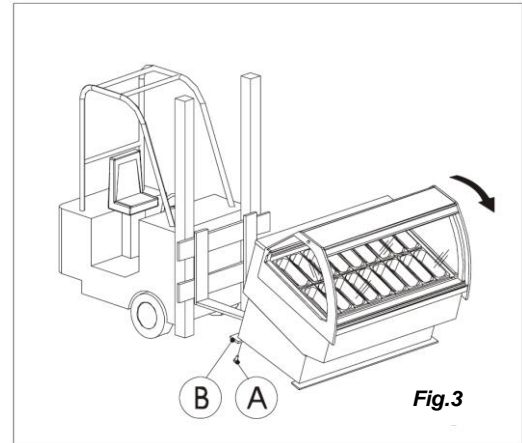

Fig.3
- Lift the cabinet using the pallets as shown in figure 3.
- Unscrew the screws that anchor the lists to the base (fig.3 pos. A) and remove the base (fig.3 pos. B).